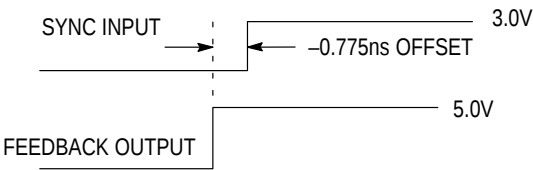

Figure 2. Depiction of the Fixed SYNC to Feedback Offset (t_{PD}) Which is Present When a 470KΩ Resistor is Tied to VCC or Ground
- A 1 MΩ resistor tied to either Analog V_{CC} or Analog GND as shown in Figure 2 is required to ensure no jitter is present on the MC88915 outputs. This technique causes a phase offset between the SYNC input and the output connected to the FEEDBACK input, measured at the input pins. The t_{PD} spec describes how this offset varies with process, temperature, and voltage. The specs were arrived at by measuring the phase relationship for the 14